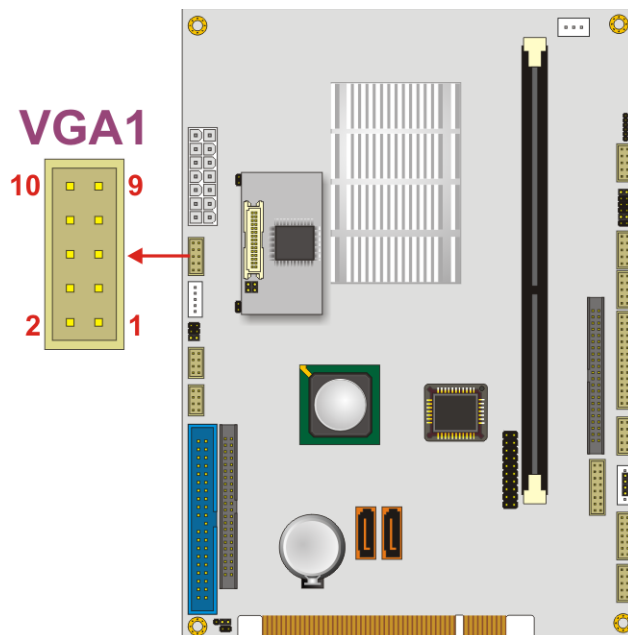

Figure 3-21: VGA Connector Pinout Location
- CN Location:** See Figure 3-21